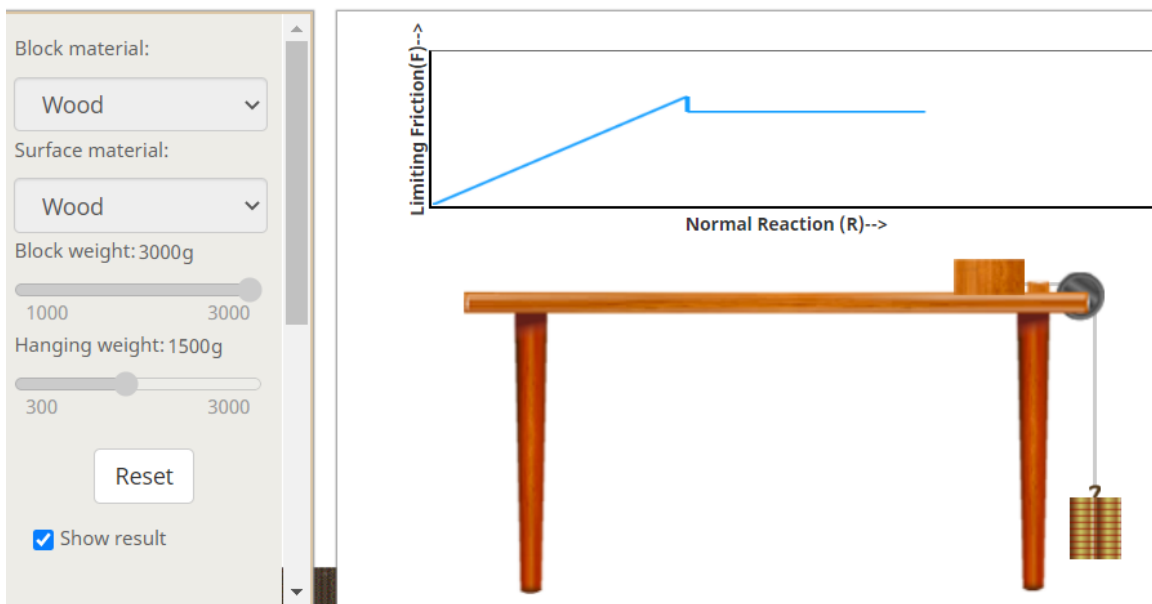

Figure 5 Schematic diagram of the object and free-body-diagram of object on inclined plane (Picture credit, <http://amrita.olabs.edu.in>)
- When the start button is clicked a graph of friction force vs time appears on bottom of the simulator page which looks like the figure 5.